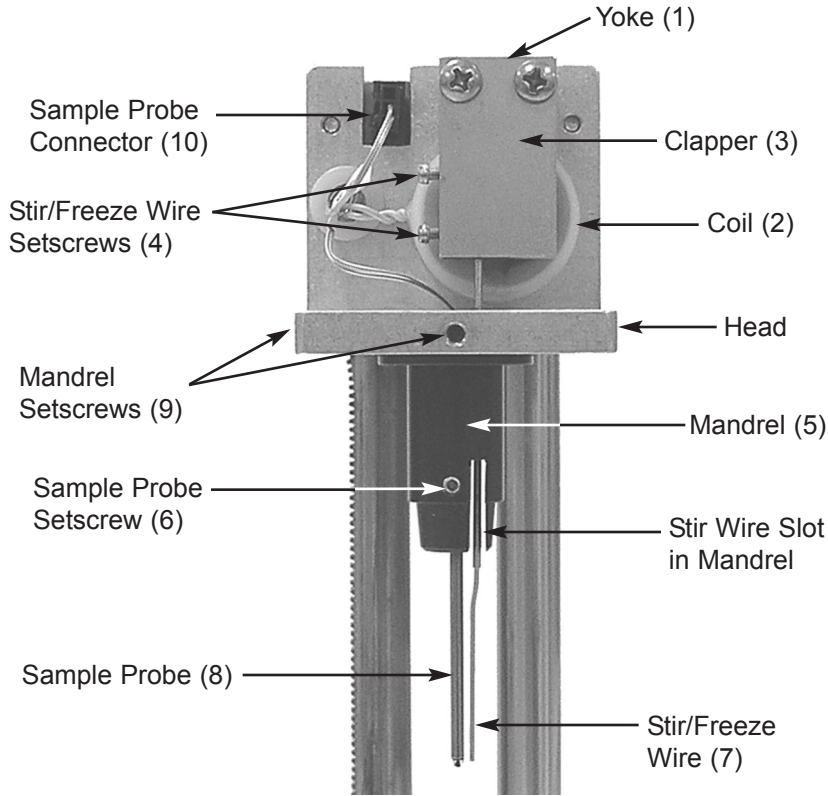

Figure 8: Operating Head
4. Unplug the sample probe connector (Figure 8, Item 10). The probe leads are electrically accessible through the side slots in the connector. Use care not to touch or bend the connector pins. Soil or salt from your fingers can increase the electrical resistance of the connection.
6. Loosen the two setscrews (Figure 8, Item 9) holding the mandrel in the head chassis. Lower the probe and mandrel down over the stir wire.
10. Arrange the leads so that they will not touch the clapper (Figure 8, Item 3) or be pinched when the head cover is replaced.
2. If vertical adjustment of the probe tip is necessary to center the black bead in the 0.2-mL sample volume, loosen the probe setscrew (Figure 8, Item 6), then manually raise or lower the probe within the mandrel. Retighten the setscrew gently (overtightening will crack or distort the thin plastic wall of the mandrel). Recheck as described in step 1 above.
2. Adjust the clapper spacing. Refer to Figure 8. Bend the yoke (Item 1) to locate the clapper (Item 3) closer to or further away from the coil (Item 2), whichever is found to increase the stir/freeze wire tip vibration.